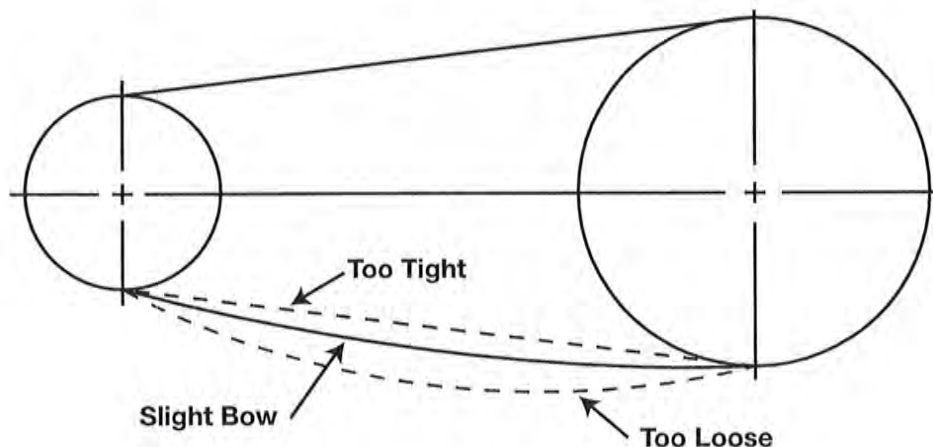

Figure 1
Step 1: Reduce the center distance so that the belts may be placed over the sheaves and in the grooves without forcing them over the sides of the grooves. Arrange the belts so that both the top and bottom spans have about the same sag. Apply tension to the belts by increasing the center distance until the belts are snug. See figure 1.